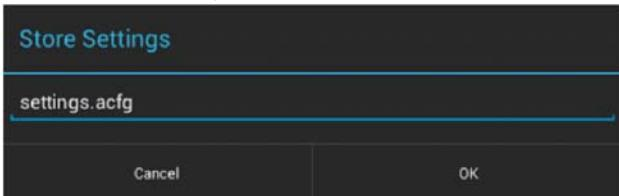

FIG. 113 Store Settings window
1. In the Reset and Update page, press **Store Settings** to open the Store Settings window (FIG. 113):